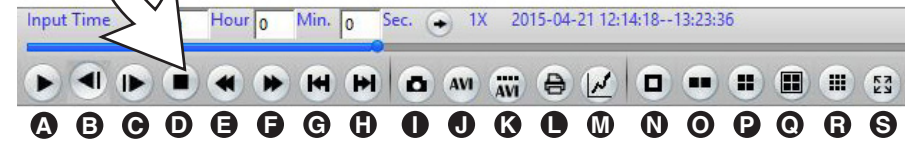

FIG. 16B
Indicates the current playback speed. Controlled by buttons "E" & "D" (FIG 16B)
By using the **Playback Speed Buttons** (E & F - FIG 16B), you can play back the video at a faster or slower rate than it was originally recorded. Speeds range from 64 times slower to 64 times faster than normal speed.
Click on the **'Stop'** icon. (D - FIG 16B).
- 3 Click on the **'Snapshot'** icon. (I - FIG 16B).
- 1 Click on the 'AVI' icon (J - FIG 16B).